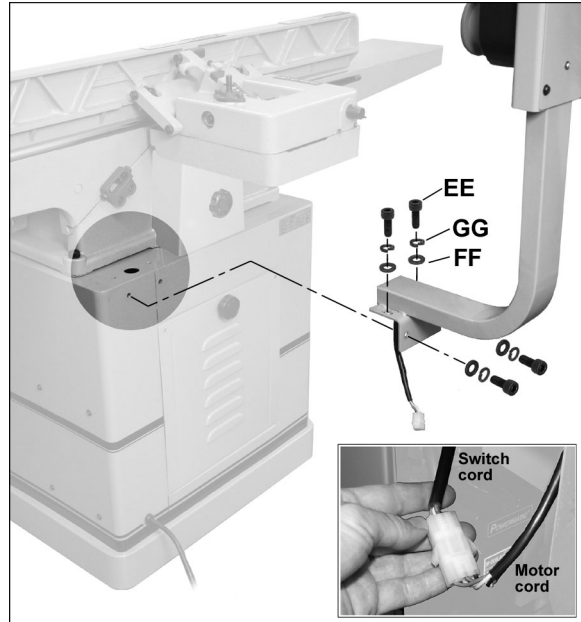

Figure 10
Refer to Figure 10.
- Secure the switch arm with four *5/16"-18 x 3/4" socket head cap screws (EE)*, four *5/16" lock washers (GG)*, and four *5/16" flat washers (FF)*, using a 6mm hex wrench.
- Open the stand door, and join the connectors of the switch cord and motor cord, as shown in the detail in Figure 10.